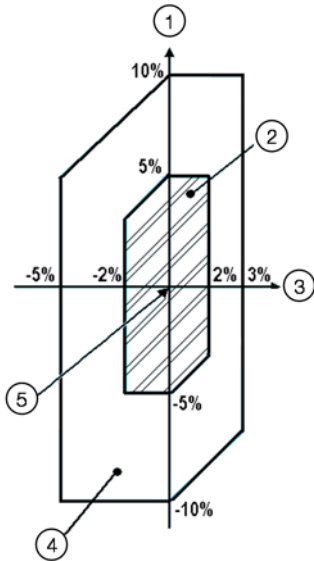

Figure 2.1: Voltage and frequency variation limits
Ex "e" motors are designed to allow maximum variations of the rated voltage of 5% and of the frequency of  $\pm 2\%$  (Zone "A"), according to Figure 2.1.
**Figure 2.1 legend:**